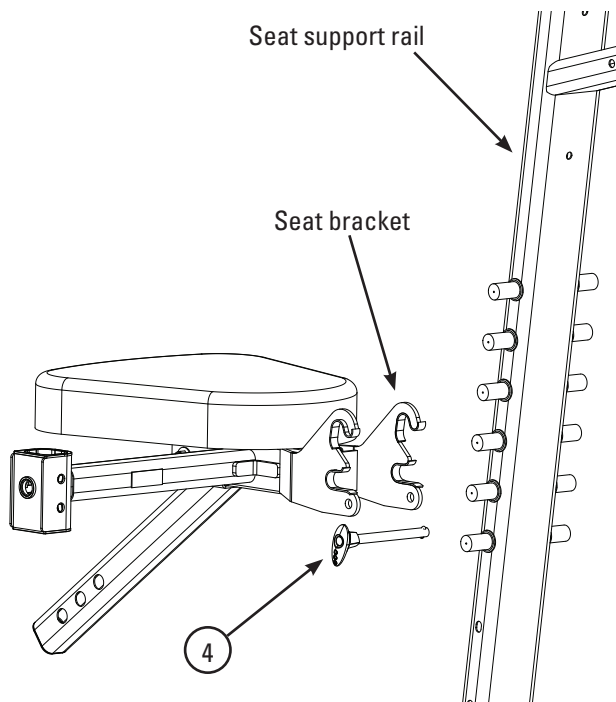

Figure 3a - Seat bracket and seat locking pin
- 3-1 Install the Seat Assembly on the home gym's Seat Support Rail. See **Figure 3a** and **3b**.